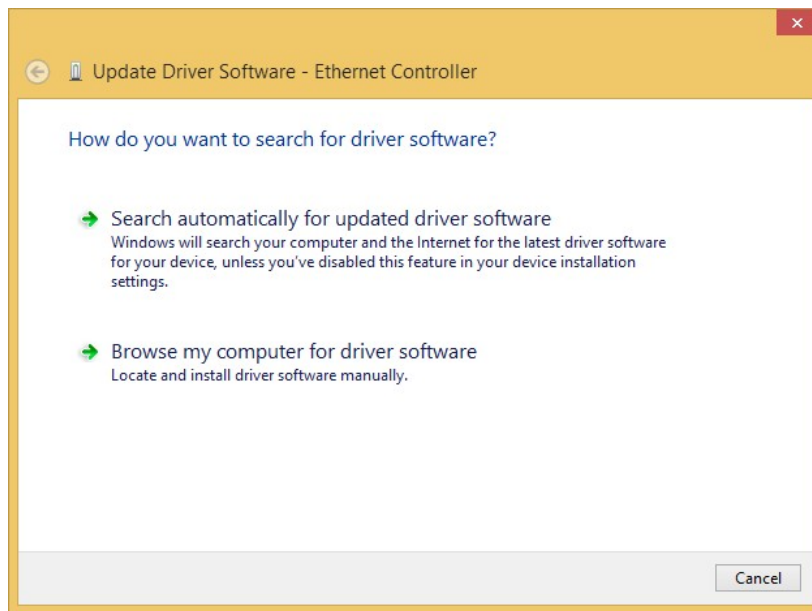

Figure 6-16: Update Driver Software Window
- Step 7:** The Update Driver Software Window appears (**Figure 6-16**).